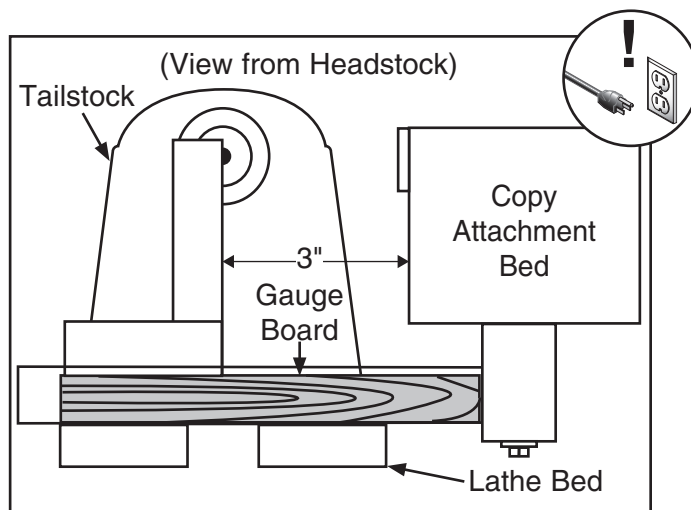
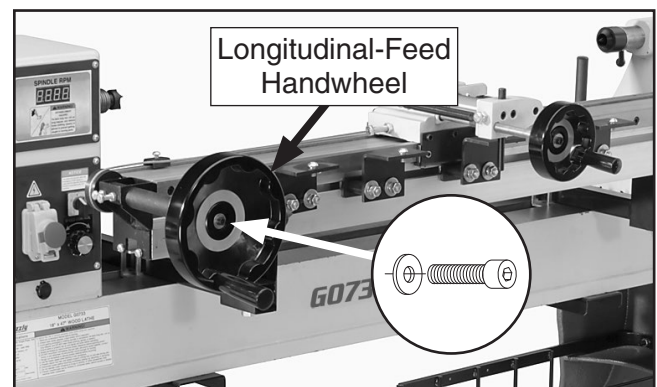

Figure 10. Use of gauge boards for alignment.
Figure 11. Longitudinal-feed handwheel installed on copy attachment.
4. Place a machinist's square centered on tailstock on top of gauge board and measure 3" toward copy attachment bed (see **Figure 10**). Place a precise mark across width of wood. Repeat with gauge board located at headstock.
5. Loosen (2) knobs securing support arm assemblies, then slide copy attachment bed over boards until leading edge is even with marks on both left and right sides (see **Figure 10**).
6. Tighten (2) knobs securing support arm assemblies to lathe bed.
8. Install longitudinal-feed handwheel with (1) M6-1 x 12 cap screw and (1) 6mm flat washer (see **Figure 11**).